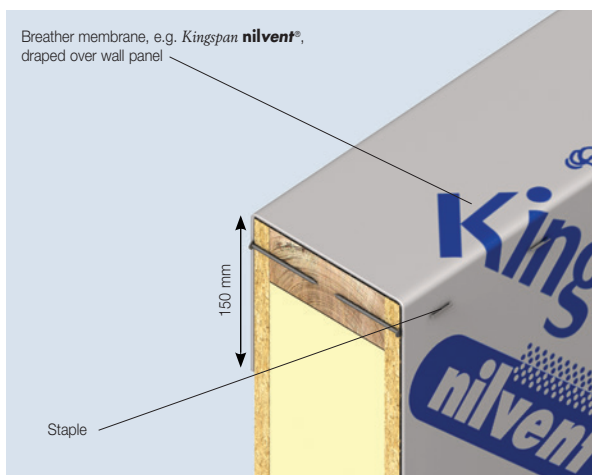

Figure 33 Temporarily Drape Breather Membrane over Wall Panel to Enhance Weather Tightness
*Hint: At the completion of each day's work, or whenever work is interrupted for extended periods of time, a non-tenting breather membrane, e.g. **Kingspan nilvent®**, should be draped temporarily over the top of the **Kingspan TEK®** Building System wall panel to a depth of 150 mm. This enhances the weather tightness of the wall panel. This is illustrated in Figure 33. When returning to work, pull back the breather membrane and overlap onto the subsequent **Kingspan TEK®** Building System panel to be installed above. If the **Kingspan TEK®** Building System wall panel is below an opening, the breather membrane should be trimmed back.*